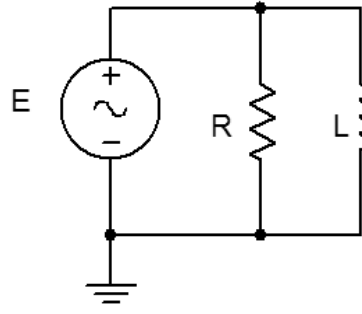

Figure 7.2
4. In general, how would the phasor diagram of Figure 7.2 change if the frequency was lowered?